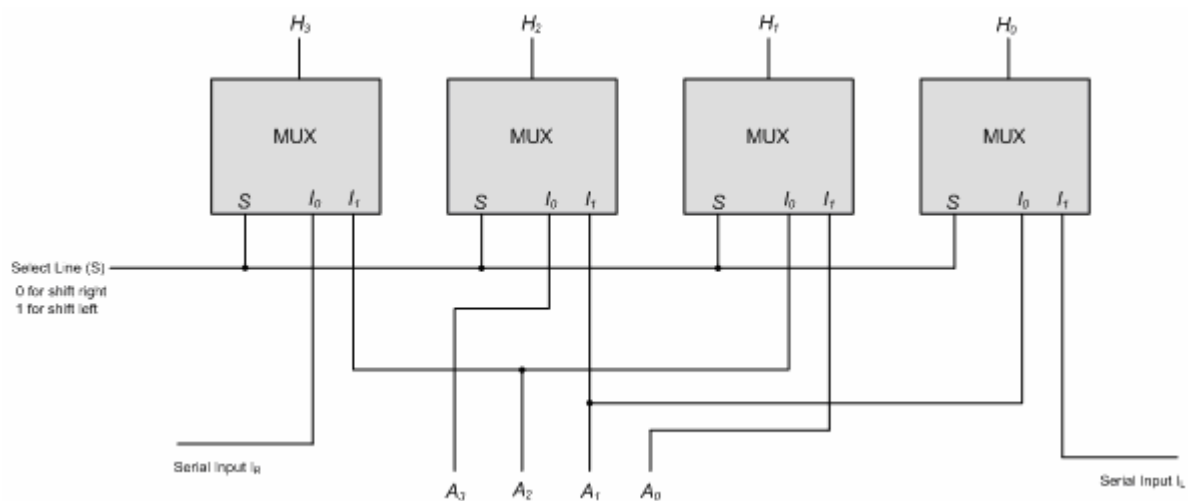

Figure 5-3 : Circuit diagram of the 4-bit shift circuit
Shift circuit used to perform the shift micro operations. The contents of a register can be shifted serially to the left or to the right. The shift circuit contains multiplexers as shown in Figure 5-3. when the select line is 0 the 4-bit input data are shifted right. When the select line is 1 the input data are shifted left. There are two serial inputs one for shift left and other one for shift right. The function table shows the outputs of the multiplexers in each case.
2. Derive the wiring diagram for the logic diagram shown in Figure 5-3.